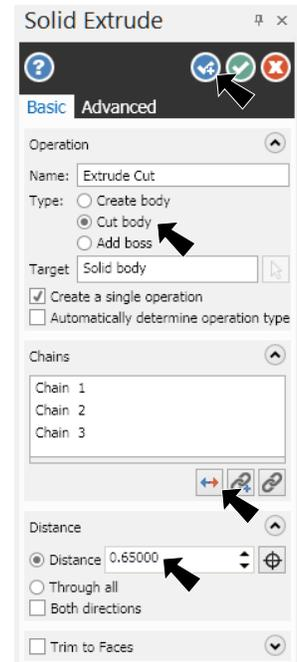

Fig. 42
Step 4. In Solid Extrude function panel, Fig. 42